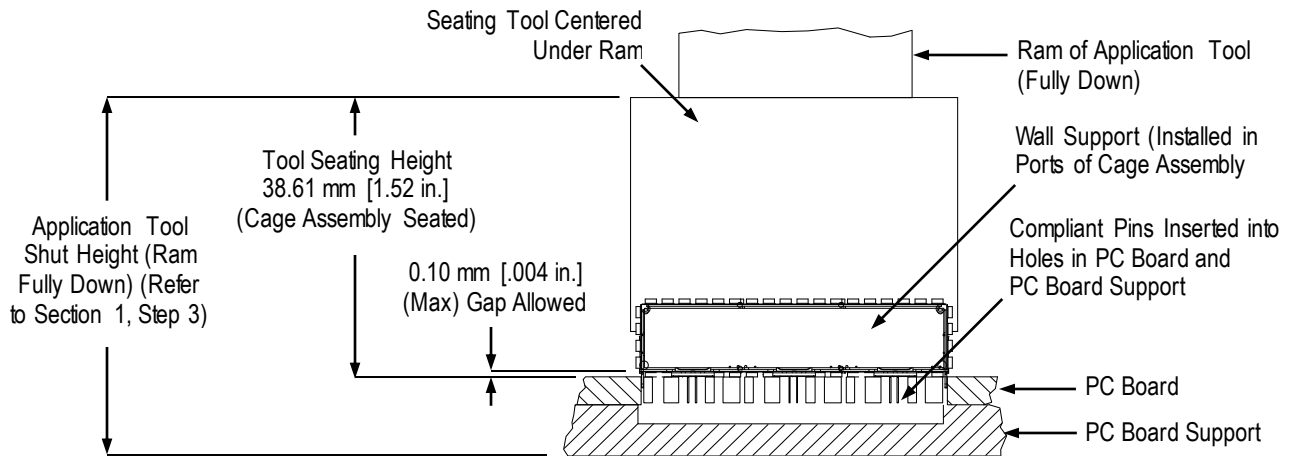

Figure 2
— tool seating height must be set to the dimension given in Figure 2 (application tool shut height will equal the tool seating height plus the combined thicknesses of the pc board and pc board support).
3. SEATING (See Figure 2)